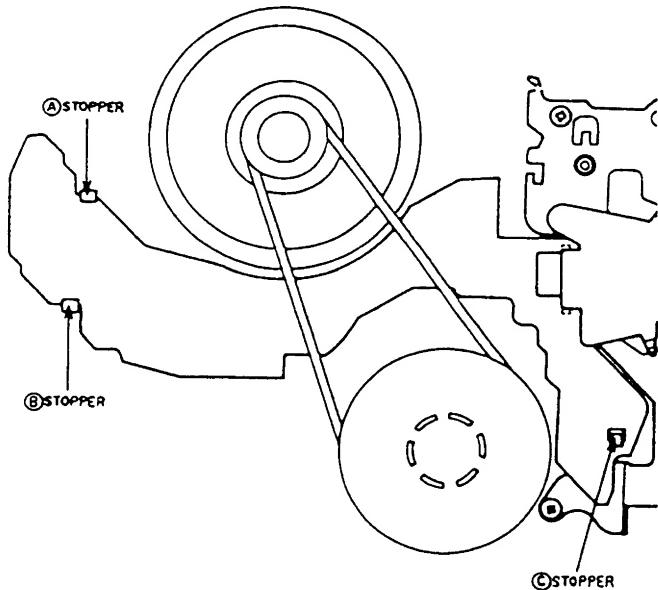

Fig. 3-6
1) Disconnect the connector P303 on the MAIN (A) PCB.
3) Release the \textcircled{A} , \textcircled{B} and \textcircled{C} stoppers as shown in Fig. 3-6. Then remove the SENSOR PCB.